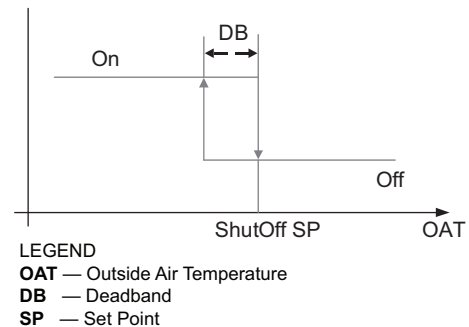

Fig. 48 — Hysteresis Settings
Hysteresis setting (DB) defaults to 2°F (–17°C). See Fig. 48.